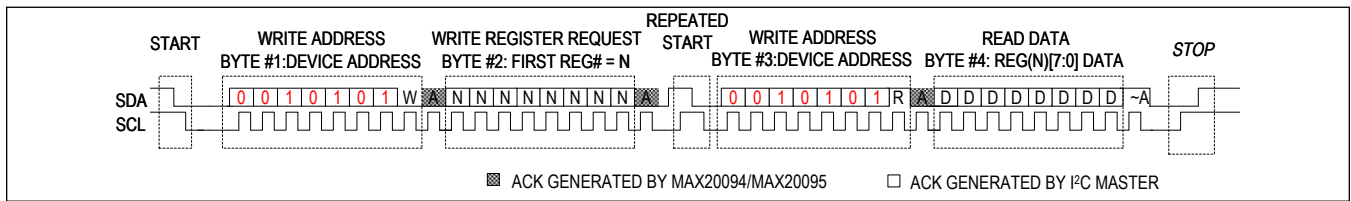

Figure 7. I²C Read Sequence
The ICs support standard combined-format I²C read-mode operations. Each receive sequence is again framed by a START (S) or Repeated START (Sr) condition and a STOP (P). Each byte is 8 bits long and is always followed by an ACK clock pulse, as shown in Figure 7. The first byte contains the address of the device, with R/W = 0 to indicate a write. The second byte contains the register that is to be read back. There is now a Repeated START (Sr) condition, followed by the device address, with R/W = 1 to indicate a read and an acknowledge (ACK) clock. The master still has control of the SCL line, but the device takes over the SDA line. The fourth byte in the frame contains the register data readback followed by a STOP (P) condition.